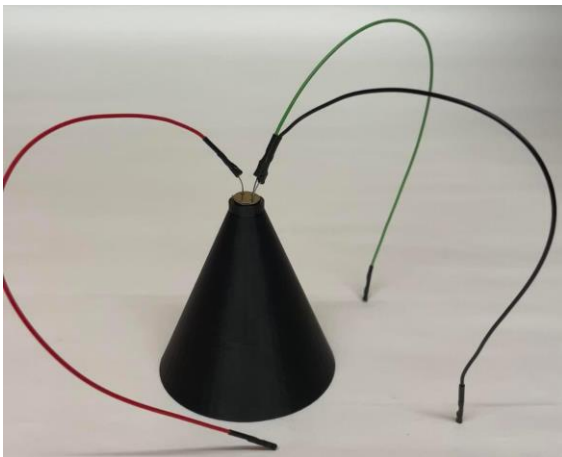

Fig. 17. The wires here are color-coded, where red represents drain, green connects to source, and black connects to ground.
3. Insert the PIR sensor into the cone with the protuberance oriented vertically with the divider in the cone. Apply a layer of super glue over the PIR sensor. Connect jumper wires to the sensor and crimp the headers to tighten the connections. See Fig. 17.